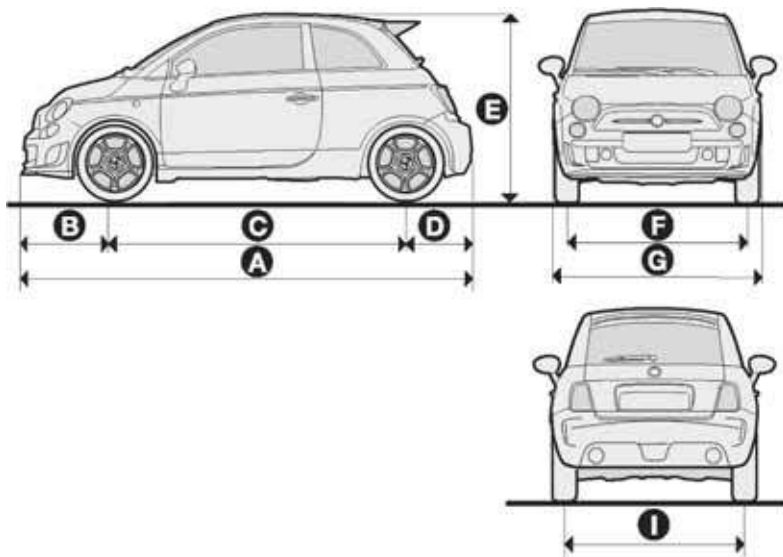

fig. 6
*If after-sale tyres with rim protector are used (fig. 6) and the car has integral cups fixed (by springs) to the sheet wheel, DO NOT fit wheel cups. The use of unsuitable tyres and wheel cups could cause a sudden pressure loss of the tyre.*